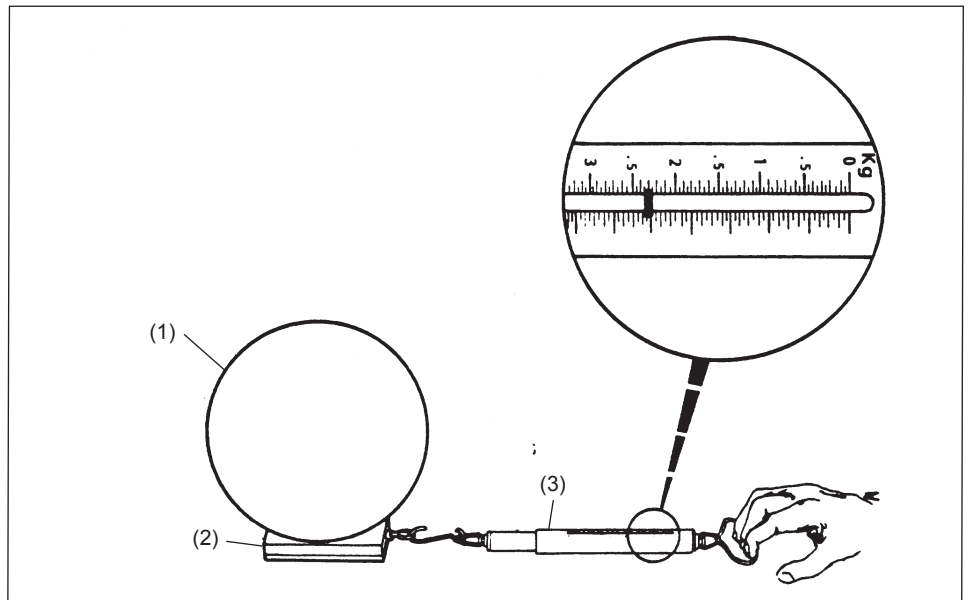

Figure 7.
3. Place the friction sled at the foul line with the leather slides against the approach surface. Place a 16 pound bowling ball on top of the sled resting between the three rubber support pads. See *Figure 7*.